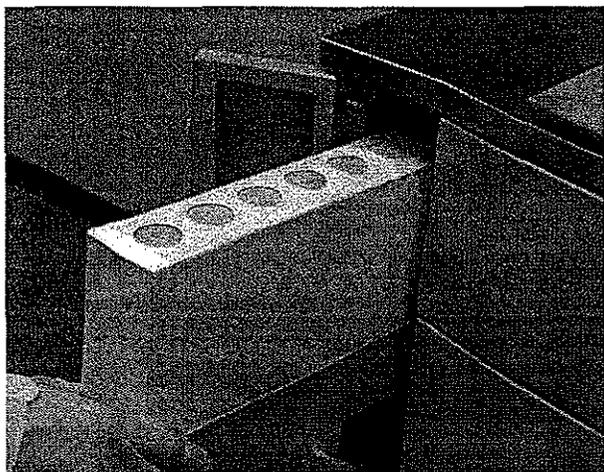

Figure 2-4
- Remove the cartridge of activated carbon from its plastic bag. Open the door located on the left side of the paraffin oven by gently pushing where indicated. With the vent holes to the top and the connecting hole towards the instrument, slide the cartridge into the receptacle (Figure 2-4). When a slight resistance is felt, push firmly on the cartridge to ensure a proper connection.